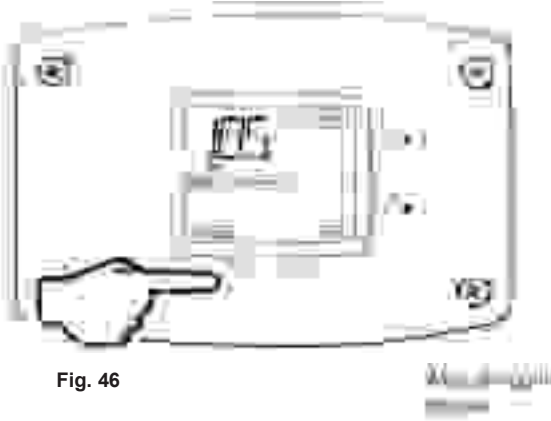

Fig. 46
1. In service mode press the 'Select' button until 'Max Setpoint' is displayed (Fig. 46).